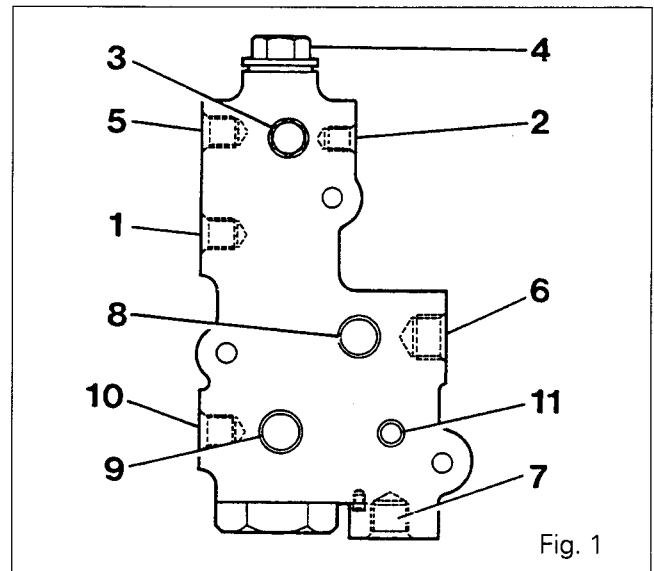

Fig. 1
When the needs of the low-pressure circuit are satisfied, the oil finally passes through the feed ports **8** and **10** (Fig. 1). Flow and residual pressure are regulated by a pipe **11** and a restrictor **A**, thereby maintaining a constant level in the brake and clutch master cylinders. Leakages return to the gearbox via port **9**.
**Designation of ports (Fig. 1).**